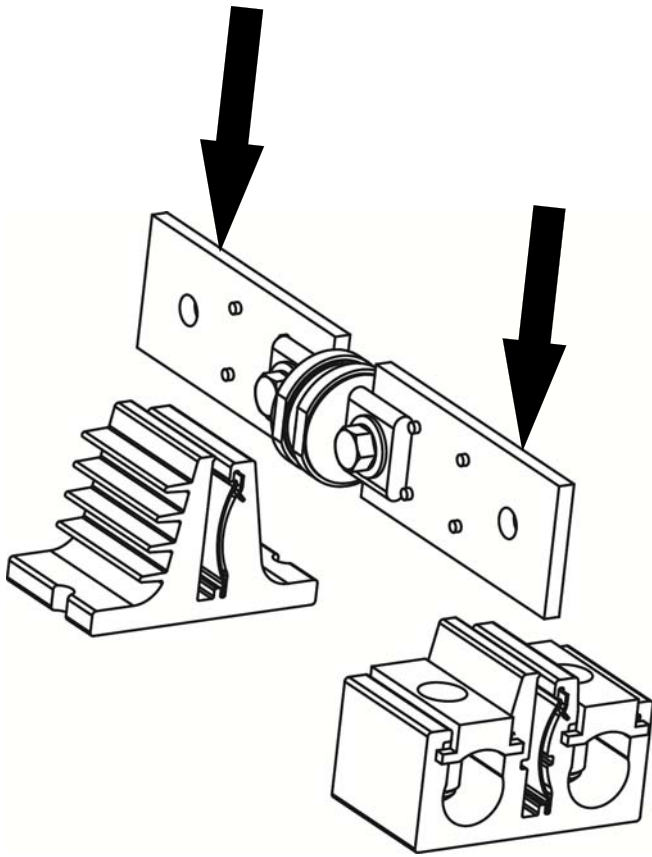

Fig. 3
- Align "T" Fuse assembly over fuse clip assemblies as shown in Fig. 3 & 4.